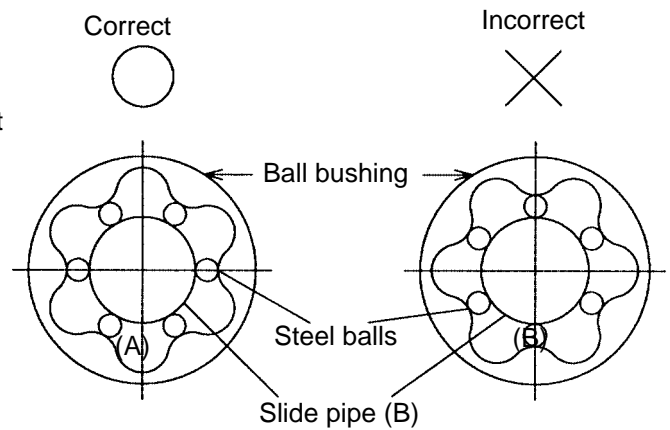

Fig. 75
(3) Reassembly of the ball bushing
The Ball Bushing [106] and Holder (A) [115] are maintained at a smooth fit. When placing the Ball Bushing [106] into Holder (A) [115], gently hammer it with a plastic hammer so that the Ball Bushing [106] is seated into Holder (A) [115] in parallel. After reassembly, lubricate around the steel balls inside the Ball Bushing [106] with 2 grams of Nippeco SEP 3A grease. Apply machine oil to slide pipes (A) and (B). When reassembling, put the Ball Bushing [106] inside Holder (A) [115] as indicated in (A) of Fig. 75. Visual observation will do for this insertion. Layout in (A) offers about 30% higher rated load in (B).